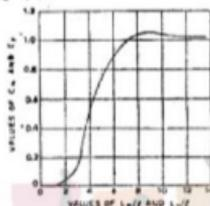

Fig. Q5 (b)
- b. Determine the warping stresses at interior, edge and corner regions in a 25 cm thick concrete pavement with transverse joints at 11 m intervals and longitudinal joints at 3.6 m intervals. The modulus of subgrade reaction (K) is  $0.069 \text{ N/mm}^2$ . Assume temperature differential for day conditions to be  $0.6^\circ\text{C}$  per cm slab thickness. Assume radius of loaded area as 15 cm for computing warping stress at the corner. Take  $e = 10 \times 10^{-6}$  per  $^\circ\text{C}$ .  $E = 0.3 \times 10^5 \text{ N/mm}^2$  and  $\mu = 0.15$ . Use the chart in Fig. Q5 (b) (10 Marks)